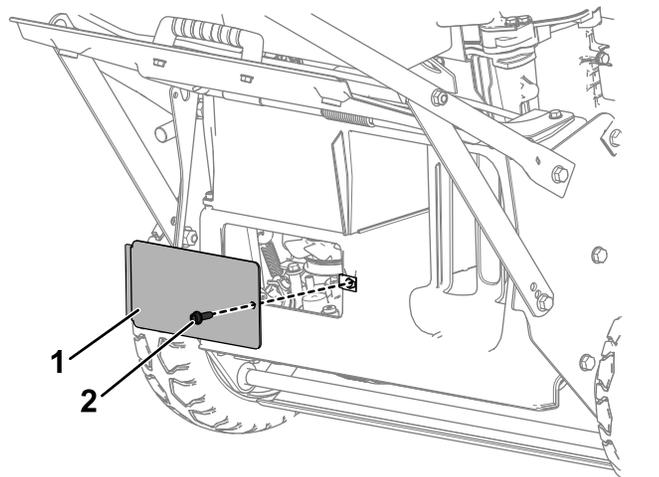

Figure 36
- 6. Remove the rear-viewing window, located under the rear-discharge deflector, by removing the bolt holding it in place (Figure 36).